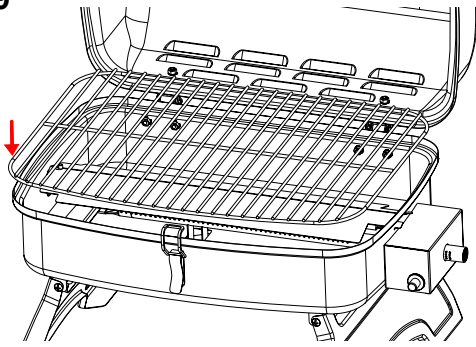

Fig. 9
*Procedure:* Place the Cooking Grid into the firebox as shown in Fig. 9.